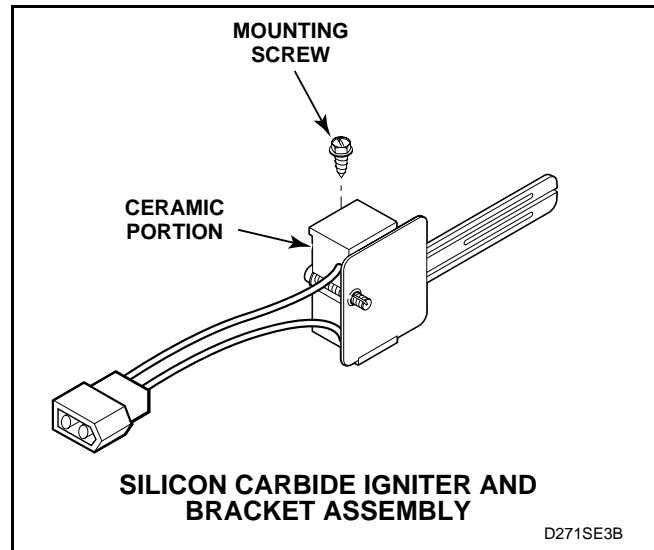

Figure 40
- Silicon Carbide Igniter** – meter should read between 45 – 200 Ohms. See *Figure 40*.